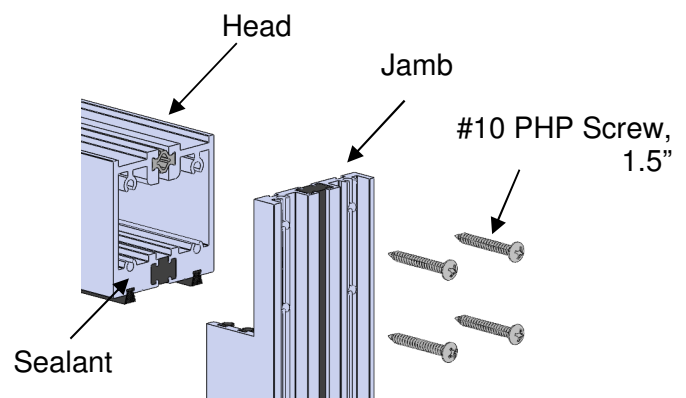

Figure 4:
- Apply a compatible sealant to the corners of the frame. Assemble the frame with screws provided (Figure 4).